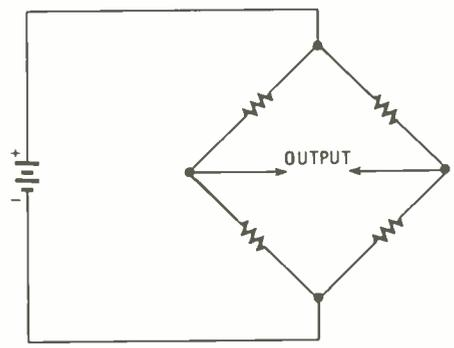

Fig. 23—The basic bridge circuit uses for resistor "arms."
47. The basic bridge circuit is shown in Fig. 23. It consists of an input voltage source, four elements or arms, and an